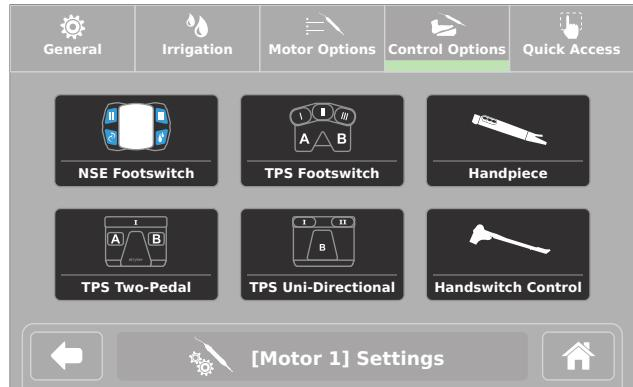

Figure 24 – Control Options Screen
3. Touch the control device button to adjust options for that specific device (Figure 24).